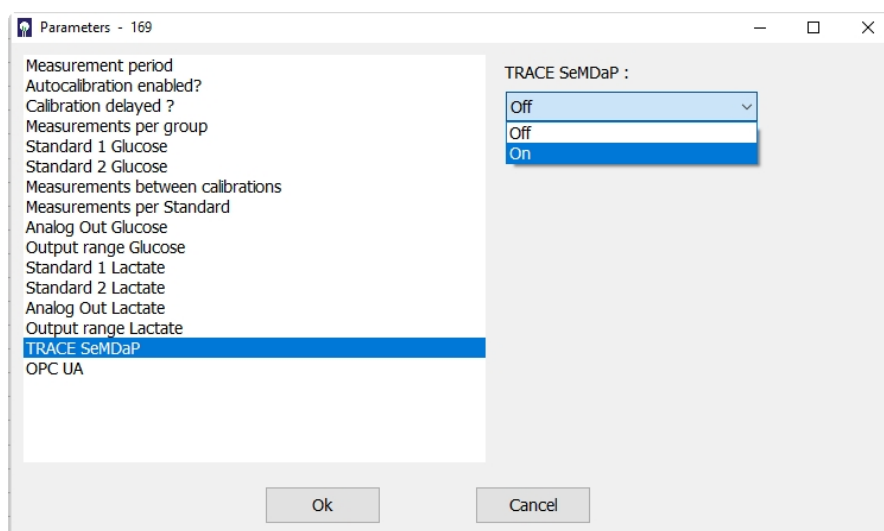

Figure 82: Activating the serial protocol
- This function is factory disabled and can be activated here (Figure 82).